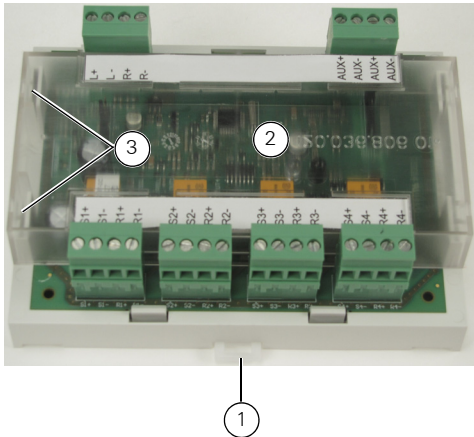
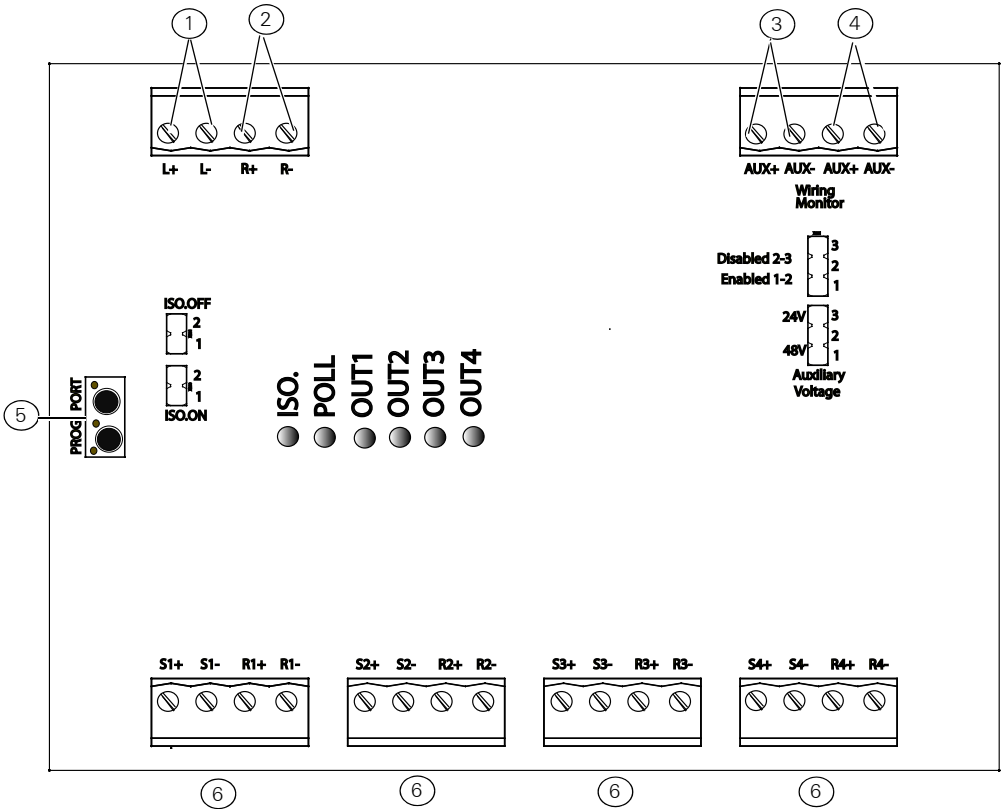

Fig. 1: FC410QMO Quad Monitored Output Module
Fig. 3: Terminal Arrangement
Figure 1 shows the FC410QMO Quad Monitored Output Module, part number 555.800.770. This module comprises of four relays with selectable wiring supervision.
Set an appropriate loop address for the module using a FC490ST service tool. Use the module’s programming port, shown as Item 5 in Figure 3. To remove the clear plastic cover, release each of the four retaining tabs in turn (see item 3 in Figure 1). Use a screwdriver to press the tab inwards, while pulling upwards on the cover.